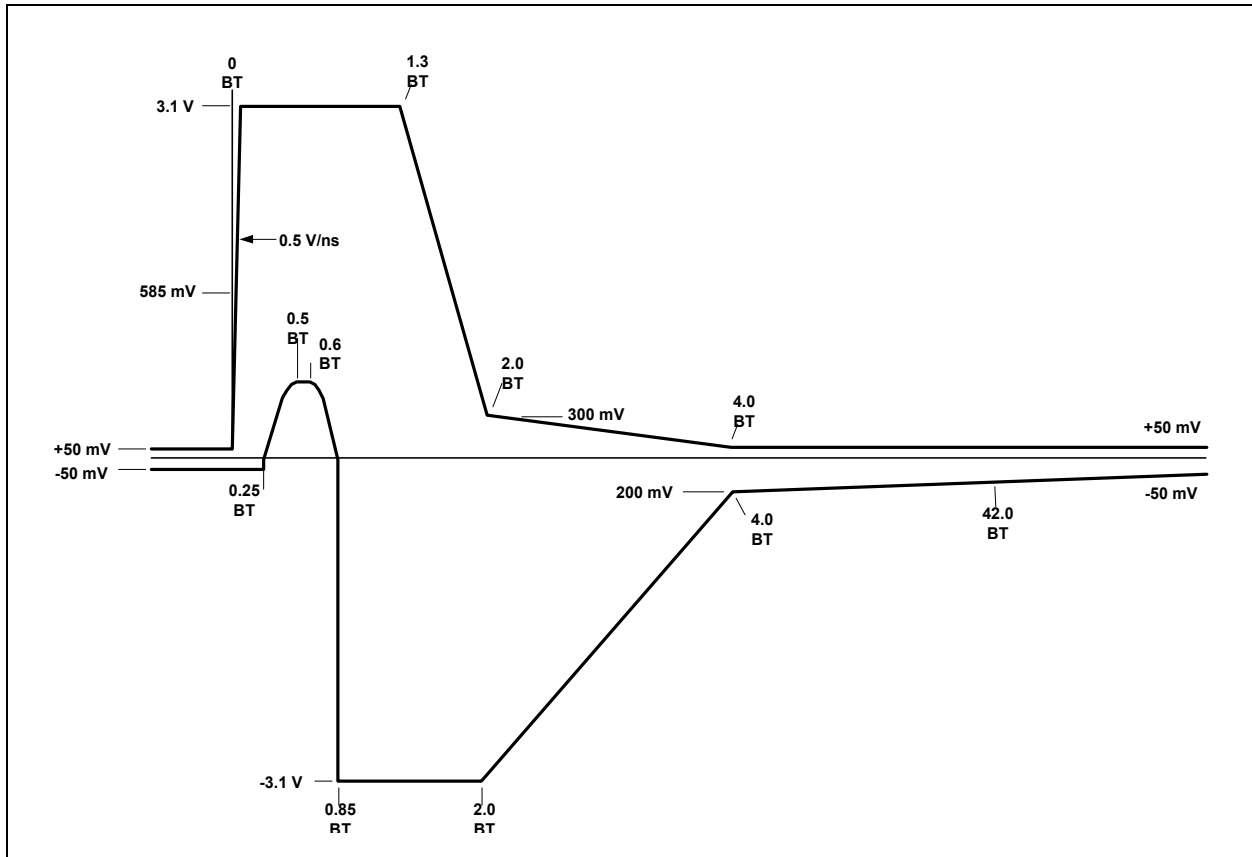
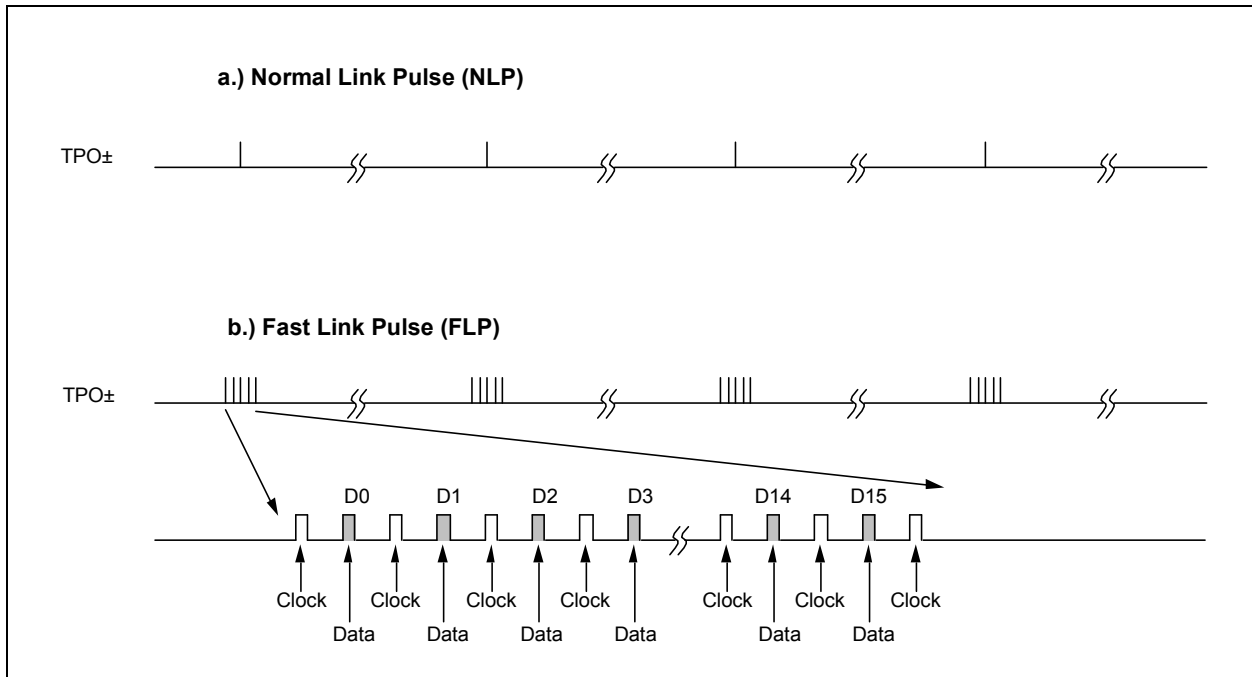

Figure 7.7 Link Pulse Output Voltage Template - NLP, FLP
Figure 7.8 NLP VS. FLP Link Pulse
The LAN91C111 uses the same 10BASE-T link integrity algorithm that is defined in IEEE 802.3 Clause 14. This algorithm uses normal link pulses, referred to as NLP's and transmitted during idle periods, to determine if a device has successfully established a link with a remote device (called Link Pass State). The transmit link pulse meets the template defined in IEEE 802.3 Clause 14 and shown in Figure 7.7. Refer to IEEE 802.3 Clause 14 for more details if needed.
As stated previously, the AutoNegotiation algorithm is used for two purposes: (1) To automatically configure the device for either 10/100 Mbps and Half/ Full Duplex modes, and (2) to establish an active link to and from a remote device. The AutoNegotiation algorithm is the same algorithm that is defined in IEEE 802.3 Clause 28. AutoNegotiation uses a burst of link pulses, called fast link pulses and referred to as FLP'S, to pass up to 16 bits of signaling data back and forth between the LAN91C111 and a remote device. The transmit FLP pulses meet the templated specified in IEEE 802.3 and shown in Figure 7.7. A timing diagram contrasting NLP's and FLP's is shown in Figure 7.8.